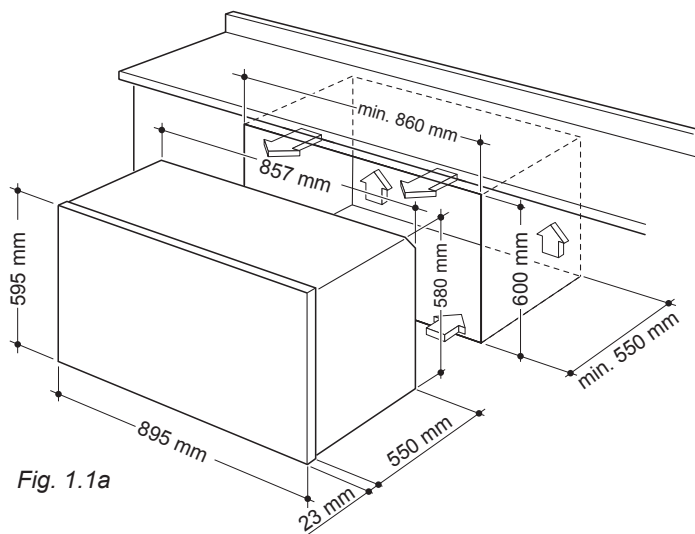

Fig. 1.1a
- Installation requires a compartment as illustrated in figures 1.1a and 1.1b.